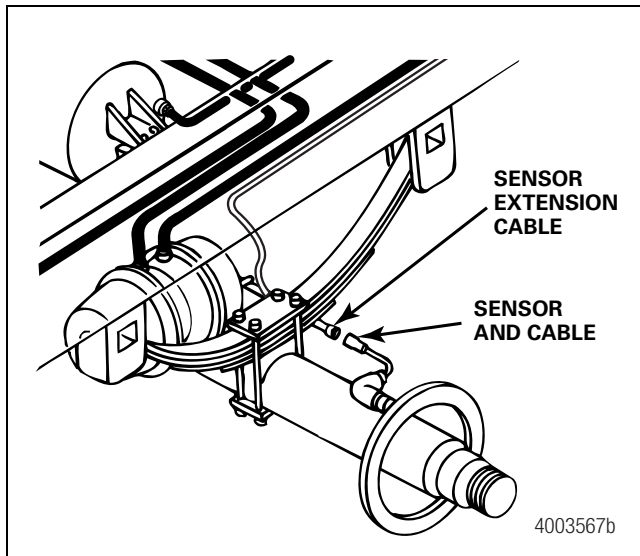

Figure 25
2. Connect the sensors and cables on the ABS-prepped axles to the sensor extension cables. Figure 25.